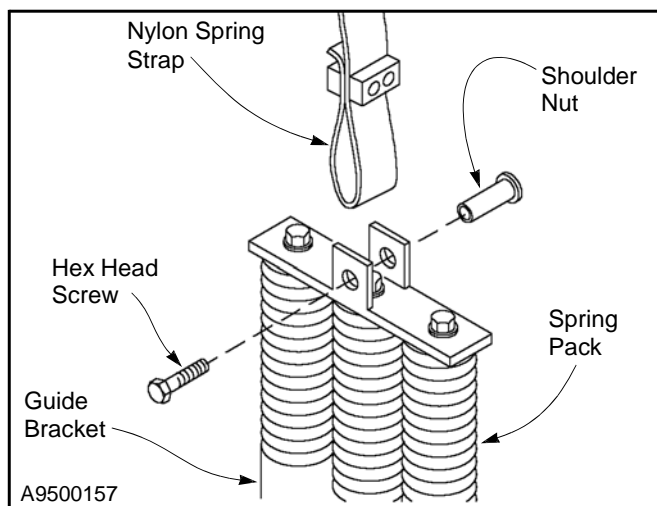

Figure 27
2. Hang each spring pack assembly from its associated spring strap. Make sure the straps are not twisted. Use the hardware provided with the spring pack to attach the strap to the pack. (See Figure 27.)